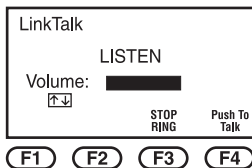

Figure 6-1. LinkTalk display at Remote Unit.
6. Press the **F3** button to stop the bell (see Figure 6-1).